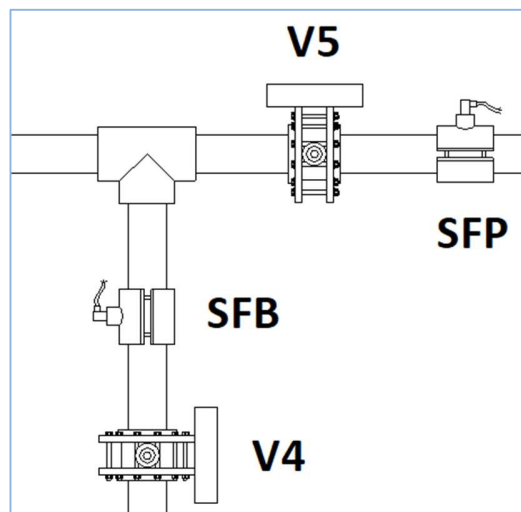

Figure 2.2. elements BYPASS KIT PRELAYER PRO
- **The system is based on adding** two paddle flow sensors (S.F.P. and S.F.B., **see Figure 2.2**) to a pre-layer bypass kit, and they are also controlled by our control cabinets.